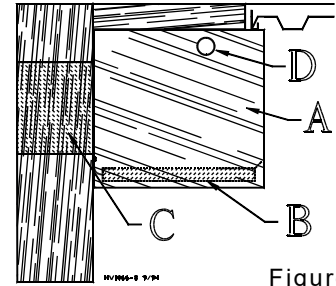

Figure 4.
Legend: Figure 4
- Use a section of baffle, plywood, or other material as an end stop at both ends of each baffle run. Drill a 1/4 inch (6 mm) hole in each end stop to allow the cable to travel through without restriction. Make sure the holes are directly in line with the cable to avoid damage to the cable or end stops. See Figure 4.